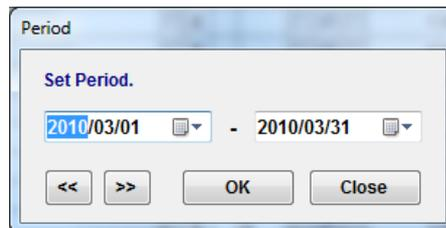

Fig.5-3 Period Input Dialog
- (3) Select [Period] button. "Period Input Dialog"(Fig5-3) is displayed.
- (4) Enter period of subject voyage term or management period (Max.45days).